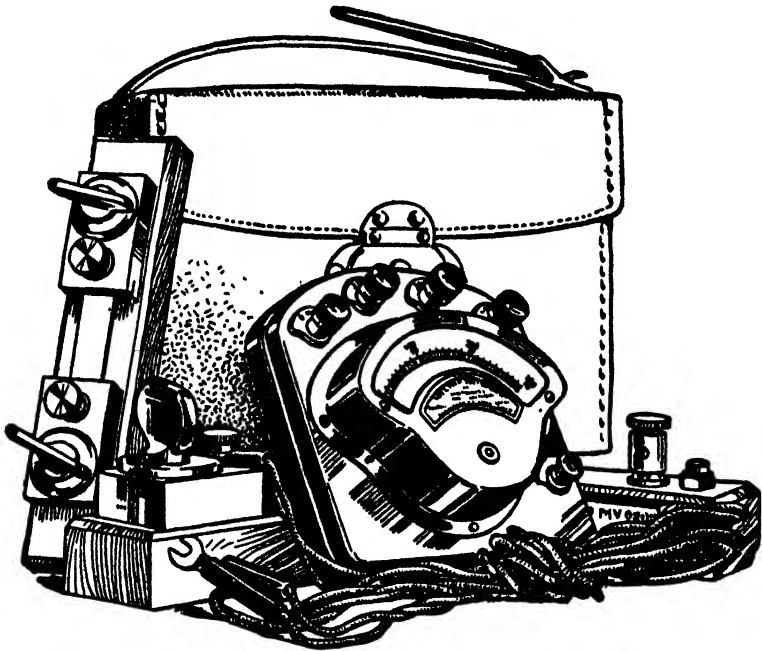

Fig 3 Portable Combination Volt-Ammeter for Testing
*Special Testing Instruments.* For the garage that claims to be fully equipped to give all necessary attention to the electrical system of the modern car, something more than the simple lamp testing outfit is necessary. Portable volt-ammeters such as shown in Fig. 3 are made specially for this purpose. This is a Weston combination volt-ammeter, the voltmeter being provided with a 0-30, 0-3, and 0 to  $\frac{1}{10}$  scales for making voltage tests, together with three shunts having a capacity of 0-300, 0-30, and 0-3 amperes, respectively, which are used in connection with the